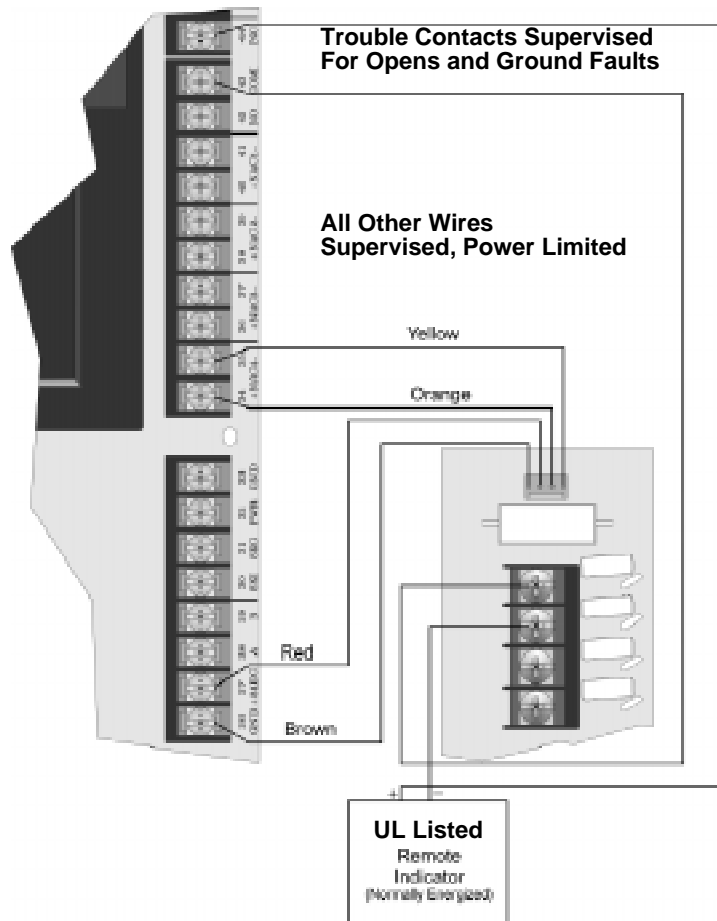

Figure 3-24 Polarity Reversal Connection
2. Wire the 5220 to the SK-5208 using the four-wire pigtail provided as shown in Figure 3-24 (next page). This diagram also shows how to connect the 5220 to the remote indicator.
3. Program one of the notification circuits to be Direct Connect (Figure 3-24 uses NAC 4 and Relay 4). The relay and NAC circuits are paired when selected as direct connect. For example, if NAC 4 is programmed as Direct Connect then relay 4 used for the trouble output.